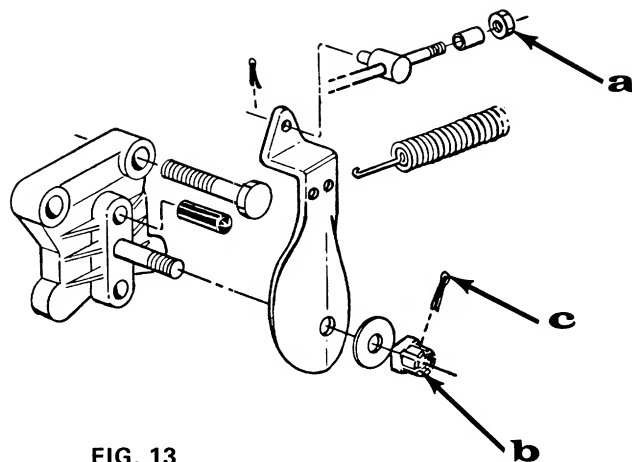

FIG. 13
**FINE BRAKE ADJUSTMENT** — Remove hair pin (C). Turn the castle nut (B) clockwise to tighten one quarter revolution and check brakes. Repeat as necessary to have proper braking power. Replace hair pin (C). (See Fig. 13).
**PEDAL ADJUSTMENT** — To take up the adjustment on the brake linkage, tighten or loosen the hex nut (A) on brake linkage. (See Fig. 13).